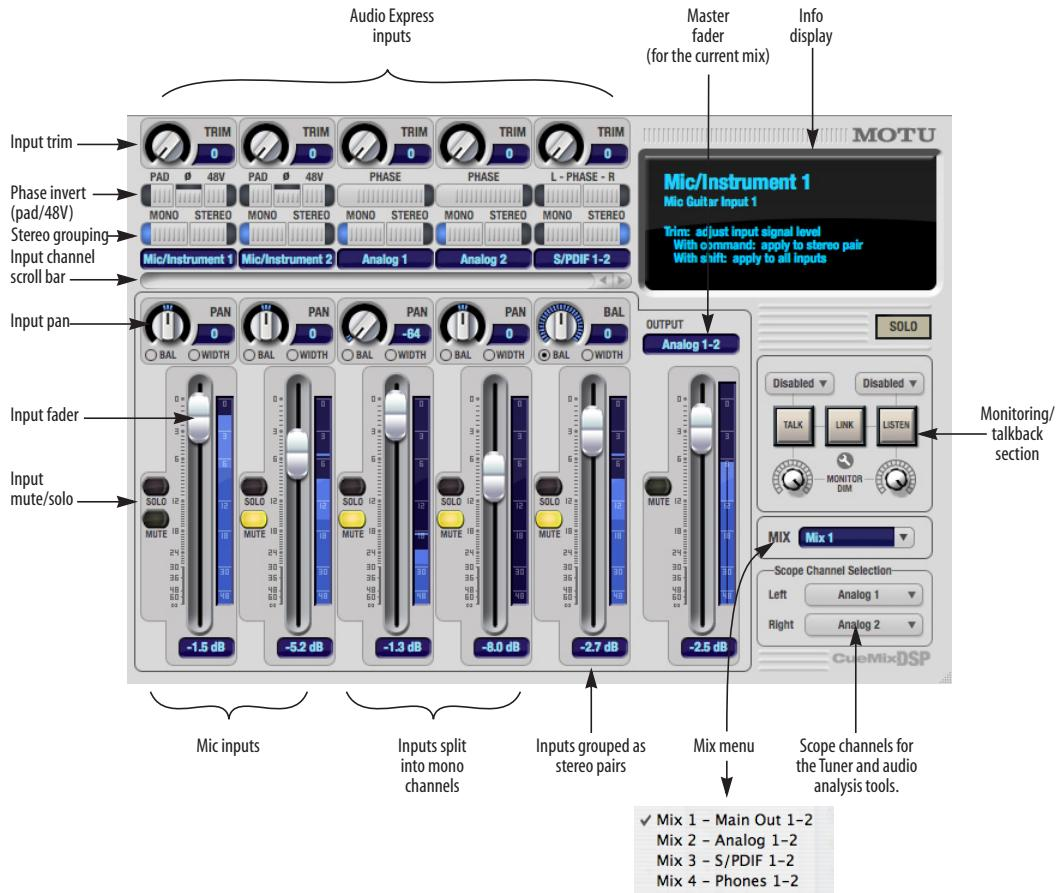

Figure 10-1: CueMix FX is a virtual mixer that gives you control over the Audio Express's on-board mixing features.
CueMix FX displays one mix at a time. To select which mix you are viewing, choose it from the mix menu (Figure 10-1). Click the mix name to change it. The mix output pair appears above the mix master fader (Figure 10-1).
To view a mix, choose it from the *Mix* menu (Figure 10-1). The menu shows all mixes by name, followed by the audio interface's output pair that it corresponds to.
The master fader (Figure 10-1) controls the overall level of the mix (its volume on its stereo output). Use the individual input faders to the left to control individual input levels.
The mix mute button (Figure 10-1) disables (silences) the mix.
The *Inputs* section (Figure 10-1) gives you access to individual Audio Express inputs (or input pairs). Unmute the input and bring up its fader to hear the input on the current mix's output. Mute, solo, and pan are also provided for each input channel.
The *Phase* button (Figure 10-1) inverts the phase of the input signal. For stereo pairs, you can invert the phase for the left and right channels independently. For the mic/instrument channels, click the phase button ( $\emptyset$ ) repeatedly to cycle among two states for mono channels (on or off) and four states for stereo grouped channels (no inversion, left only, both, or right only).
Click the *Mono* button (Figure 10-1) if you would like an input to be treated as a mono channel. If you would like to work with it as one channel of a linked stereo pair, click the *Stereo* button. Inputs are grouped in odd/even pairs (Mic/instrument 1-2, Analog 1-2, etc.) Stereo pairs appear as a single channel strip in the CueMix FX mixer.
The pan knob (Figure 10-1) for each input pans the input across the mix's stereo outputs. If the input itself is grouped as a stereo pair, two forms of panning control are provided:
Use the input fader (Figure 10-1) to adjust the level for the input in the mix. Note that an input can have different level, pan, mute and solo settings for each mix. Input channel level meters are post-fader.
The *Scope channel selection* menus (Figure 10-1 on page 52) let you choose what input channels will be fed to the CueMix FX audio analysis (scoping) features. See “Devices menu” on page 57.
- 1 Select the source mix (Figure 10-1) and choose Copy from the Edit menu (or press control-C).